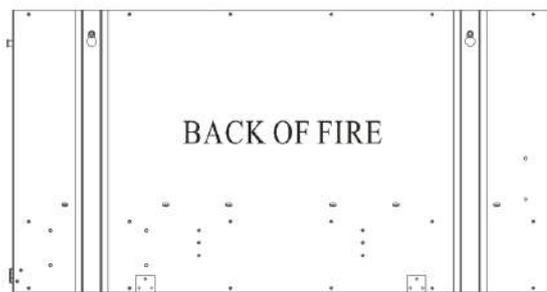
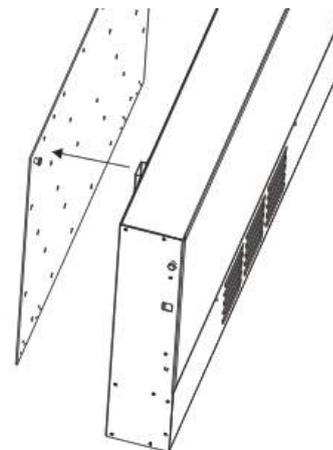

FIG 2
FIG 3
9. Lift up the fire and offer the keyhole slots situated on the back of the fire (figure 2) to the location studs on the fixing plate. A gentle downward pressure should be applied. Make sure the all of the studs have been located into the top section of each keyhole fixing slot. (See figures 3 & 4)